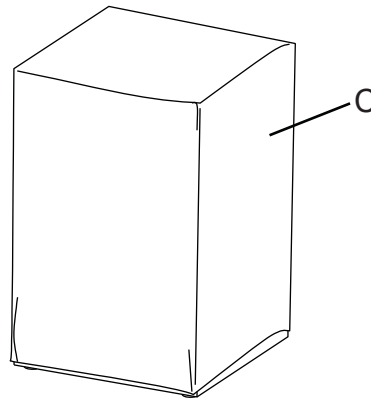

Figure 4
7. Cover the fire pit with the outdoor weather cover (C) when not in use to protect it from the elements or when fire pit is cool COMPLETELY after the use (see Figure 4).